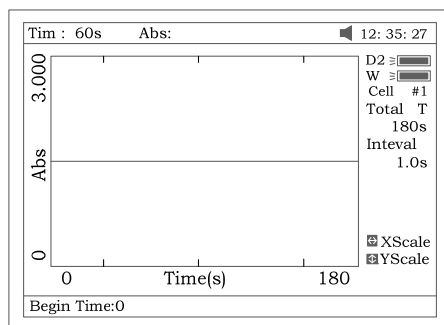
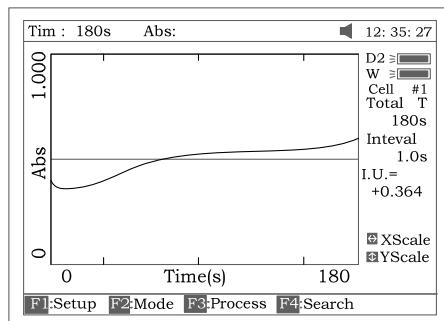

Fig 57
Fig 58
- Press **[F3]** to process the data, and enter “Begin Time”, “End Time” and “Factor” (Fig 57) and the value in I.U. will be calculated and displayed (Fig 58). The average straight line between the Begin Time and End Time will be calculated. The gradient of this line gives the rate of change of $\Delta A/\text{min}$.